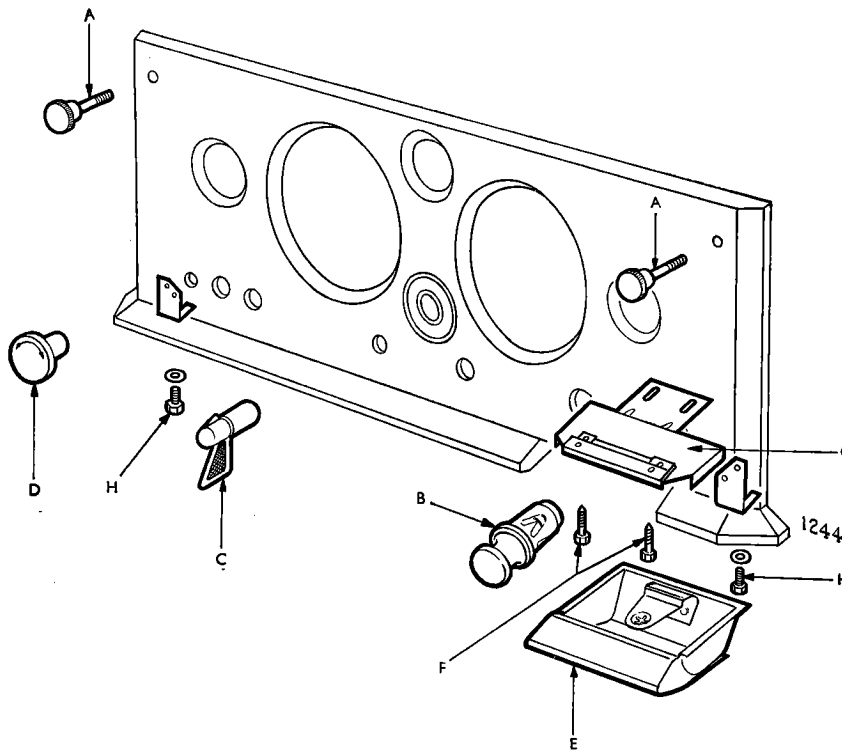

Fig. 44. Centre facia panel, removal.
Remove both thumb screws (A) Fig. 44, from the top of the facia panel. Take out the ignition keys and cigar lighter (B). Insert a piece of stiff wire into the hole in the side of the light switch (C) to depress the plunger when the switch can be withdrawn. Repeat for the wiper switch (D).